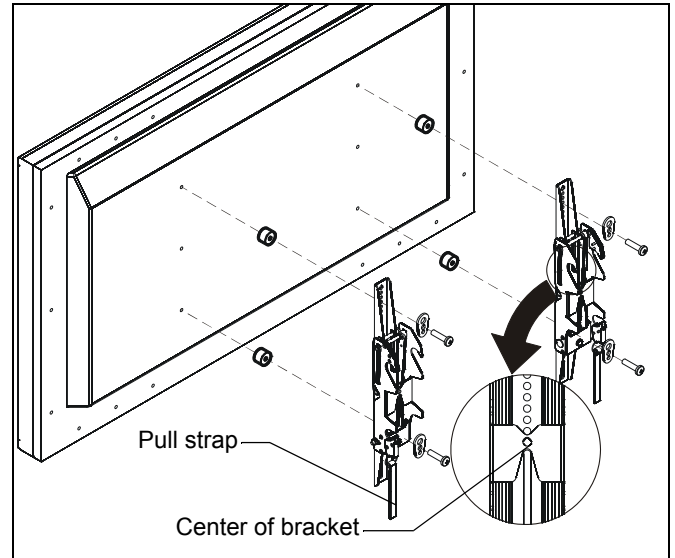

Figure 8
1. Align the center of the pull-out uprights (U and V) with center of screen. (See Figure 8)
2. Select correct screws, spacers (if necessary) and universal washers from the hardware bag (A-N) and attach brackets (U and V) to back of screen. (See Figure 8)